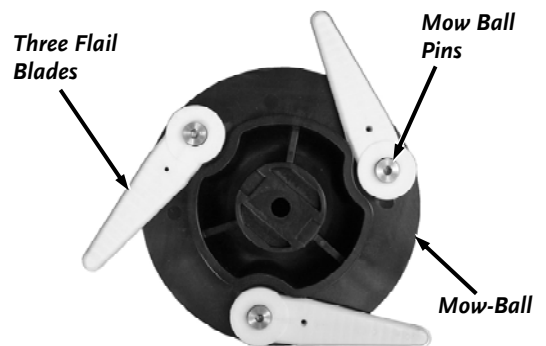

Figure 3
5. Position three Flail Blades onto the Pins of the new Mow-Ball (**Figure 3**).